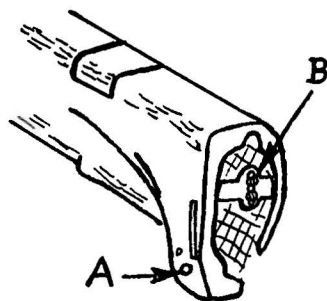
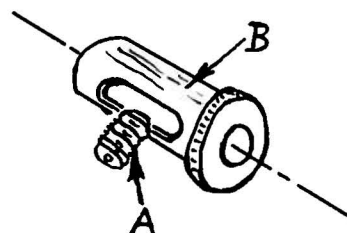
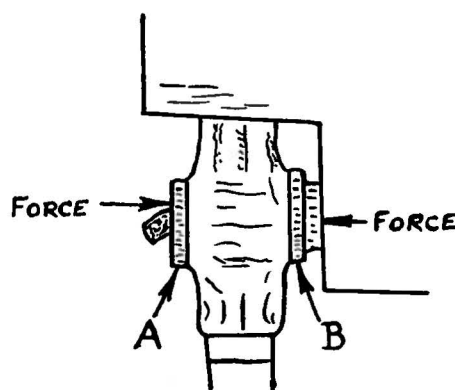

Fig. 17B
Fig. 17C
Fig. 17D
The needle should be in the center of the needle hole, left to right, located in the throat plate. If it is not, loosen the set screw (A, Fig. 17B) which holds the lower stud and adjustable bushing (B, Fig. 17C) in place.
CAUTION! Do not loosen this screw more than necessary to remove stud from bushing, otherwise, the adjustable bushing may have to be relocated in order to assure that set screw will enter the screw slot in adjustable bushing and clamp on the stud (Fig. 17C).
Using the stud (A) and adjustable bushing (B) as thrust face (Fig. 17D), remove all side play from needle frame. Then, set needle bar frame clamp (B, Fig. 17B) so that the needle is centered laterally in the throat plate and there is no lateral motion in the needle bar frame. Make final check of needle location and tighten set screw (A, Fig. 17B) and needle bar frame clamp attaching screws (B, Fig. 17B).